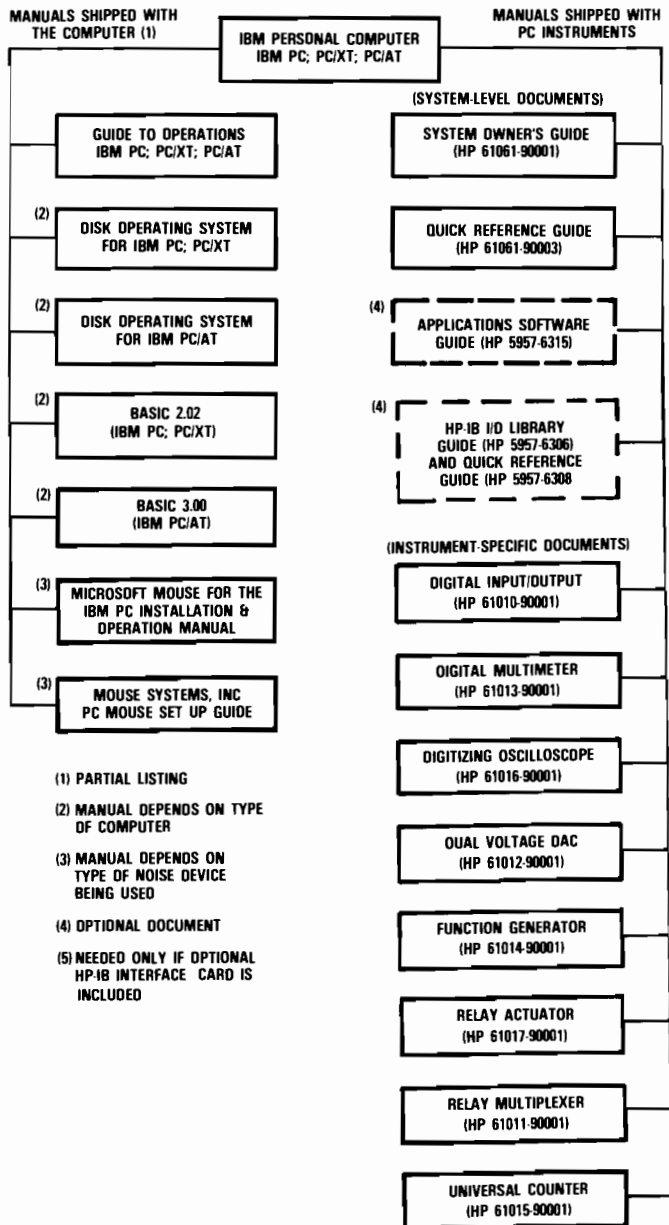

Figure 1. PC Instruments Documentation Map
Figure 1 is a documentation map that shows how PC Instruments documentation relates to some of the documentation that you received with your personal computer. Although the computer is shipped with comprehensive software documentation, the documents shown in the map are those most important for using PC Instruments.
- Notes:** (1) Other users may skip steps, as appropriate.
(2) Need be done only once, except that configuration must be repeated if PC Instruments hardware is changed.
(3) Specifically designed for the first-time user.
(4) You may also want to learn about the programmed mode before connecting your application.
*** Guides (See Figure 1):**
- (1) Guide to Operations for your specific computer.
- (2) Disk Operating System Manual for your specific computer.
- (3) Instruction manual for your mouse device.
- (4) PC Instruments System Owner's Guide (this manual).
- (5) PC Instrument Owner's Guide (for each instrument).
- (6) BASIC manual for your specific computer.